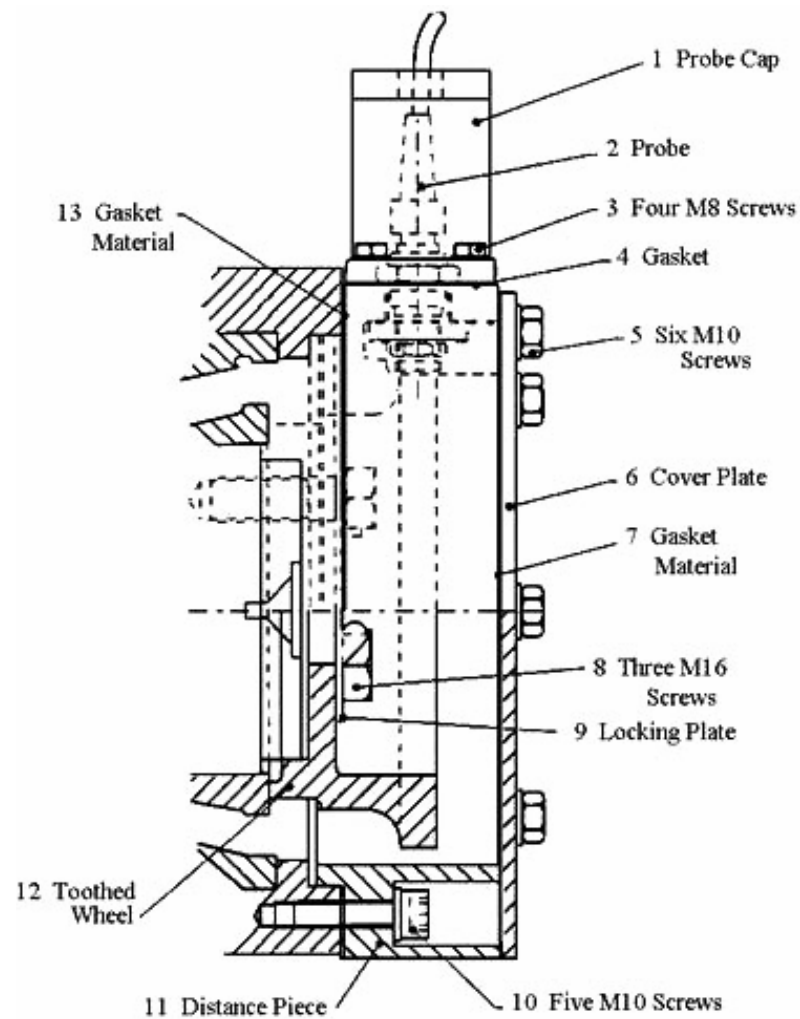

Figure 2: BR WSP Side View - Revised Design
3.2.6 Remove the three M16 screws (item 8 on Figure 2). Remove and discard the locking plate. Remove the toothed wheel (7) using M10 brass bolts in the jacking holes.
3.2.7 Remove the five M10 screws (item 10 on Figure 2). Remove and discard the spring washers. Remove distance piece by fitting jacking screws to the tapped holes. Remove and discard the gasket material from both faces. Retain any small M10 flat washers for re-use.